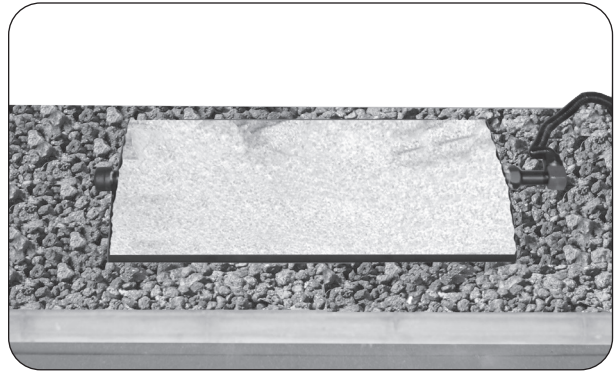

Fig. 12-1 Place sand/vermiculite
1. Fill the burner pan completely with the sand/vermiculite (see Fig. 12-1).